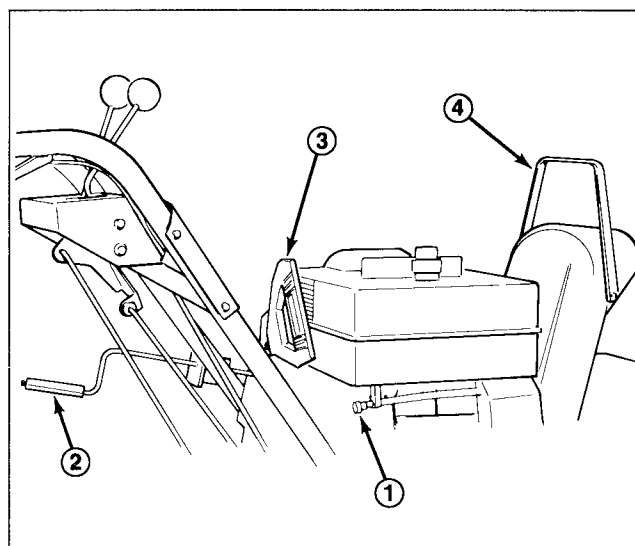

Figure 15
Fuel Shut-Off Valve (Fig. 15)—Valve is located under fuel tank. Close valve to stop fuel flow from fuel tank and open valve to allow fuel to flow to the carburetor. Close valve when snowthrower is not in use.
Discharge Chute Control (Fig. 15)—Rotate discharge chute control clockwise to move discharge chute to the left and counterclockwise to move chute to the right.
Recoil Starter (Fig. 15)—Recoil starter is on back side of engine. Pull recoil starter to start engine.
Deflector Handle (Fig. 15)—Deflector handle is on top of discharge chute, and it is used to control height of the snow stream.
3. Open fuel shut-off valve below fuel tank (Fig. 15).
7. Grasp recoil starter handle (Fig. 15) and pull it out slowly until positive engagement results; then pull vigorously to start the engine. Keep firm grip on starter handle and return the rope slowly.